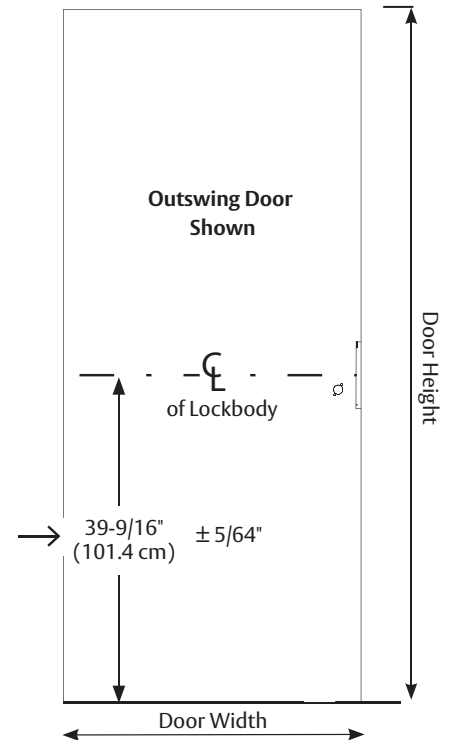

Figure 34
- Correctly prepared to Template 4740. (Figure 34)